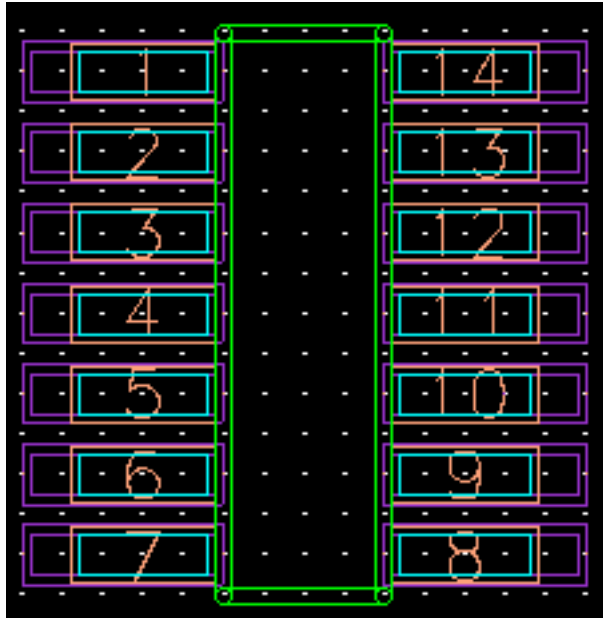

Figure 3-29. The Component Outline Graphics Added to SOIC14
12. Change the edit layer to Silkscreen, then add the component outline as shown in Figure 3-29.